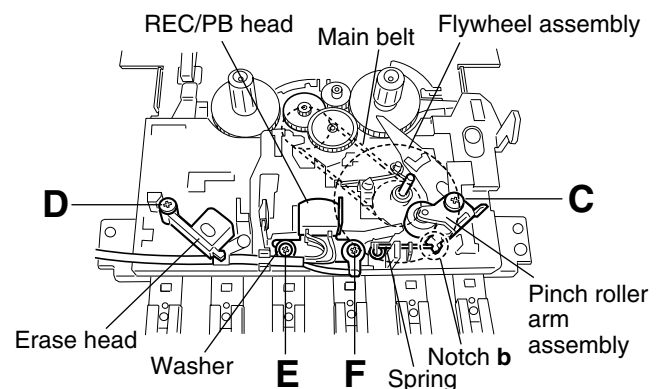

Fig.4
■ Removing the pinch roller arm assembly (See Fig.4.)
■ Removing the erase head (See Fig.4.)
■ Removing the REC/PB head (See Fig.4.)
■ Removing the flywheel assembly (See Figs. 4 and 5.)
(See Figs. 4 and 5.)